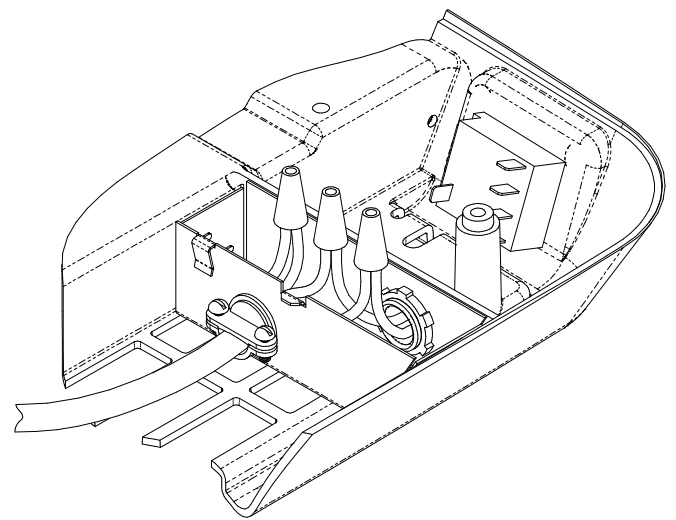

FIGURE 13
- F. Insert the supply wiring through the cable clamp and into the field wiring box so that 4 – 6" of supply conductor is inside the box. Secure the cable clamp over the supply wire sheath so that no movement is possible (See Figure 13).
- G. Connect the supply power conductors to the black and white pigtail wires and the supply ground wire to the green pigtail wire found in the field wiring box using the 3 provided wire nuts. **IMPORTANT** – connect the black supply to the black pigtail and the white supply to the white pigtail. Using a U.L. approved electrical tape, secure the wire nuts to wires in a workmanlike manner (See Figure 13).